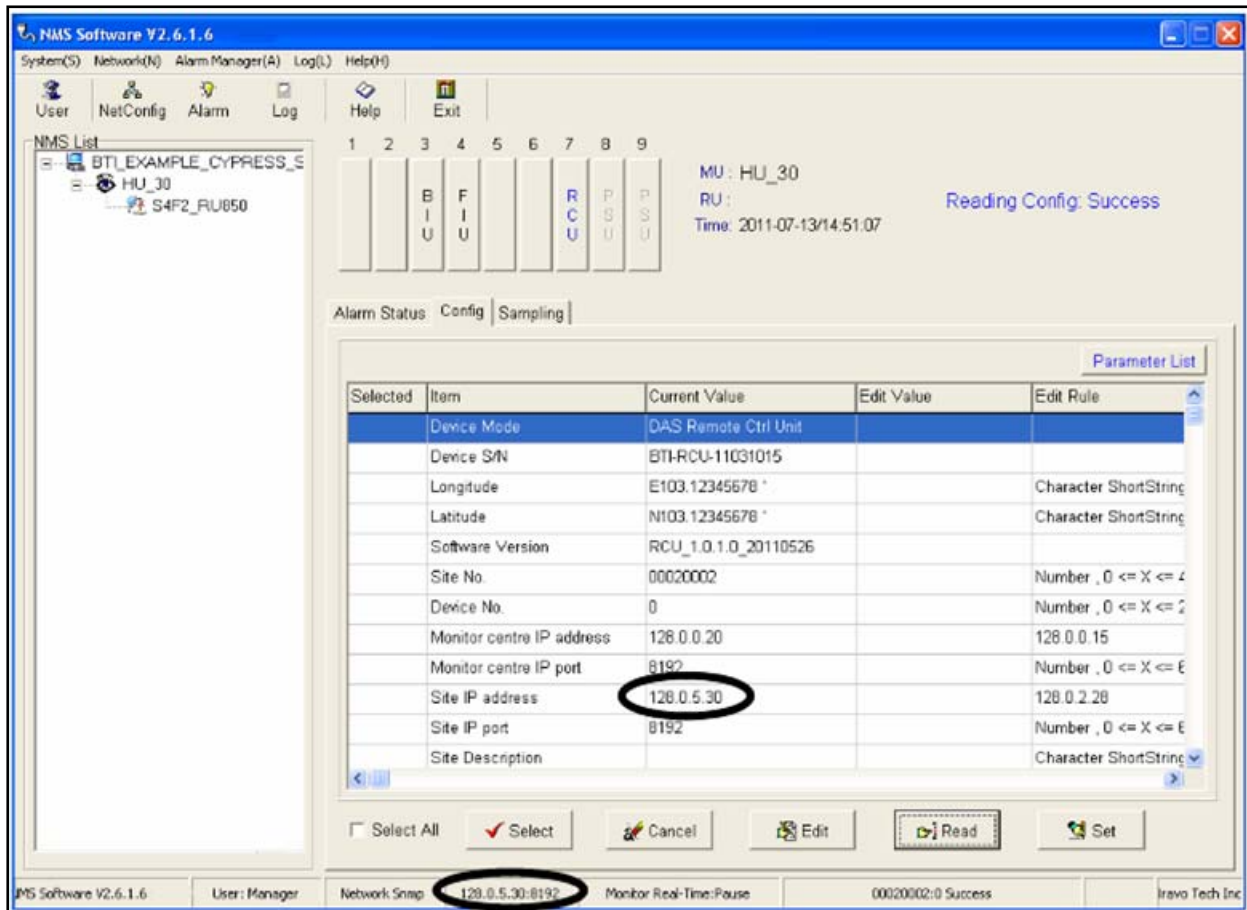

Figure 5-16. Confirm IP Address Update Accepted.
3. Click on *Read*, **Figure 5-16**.